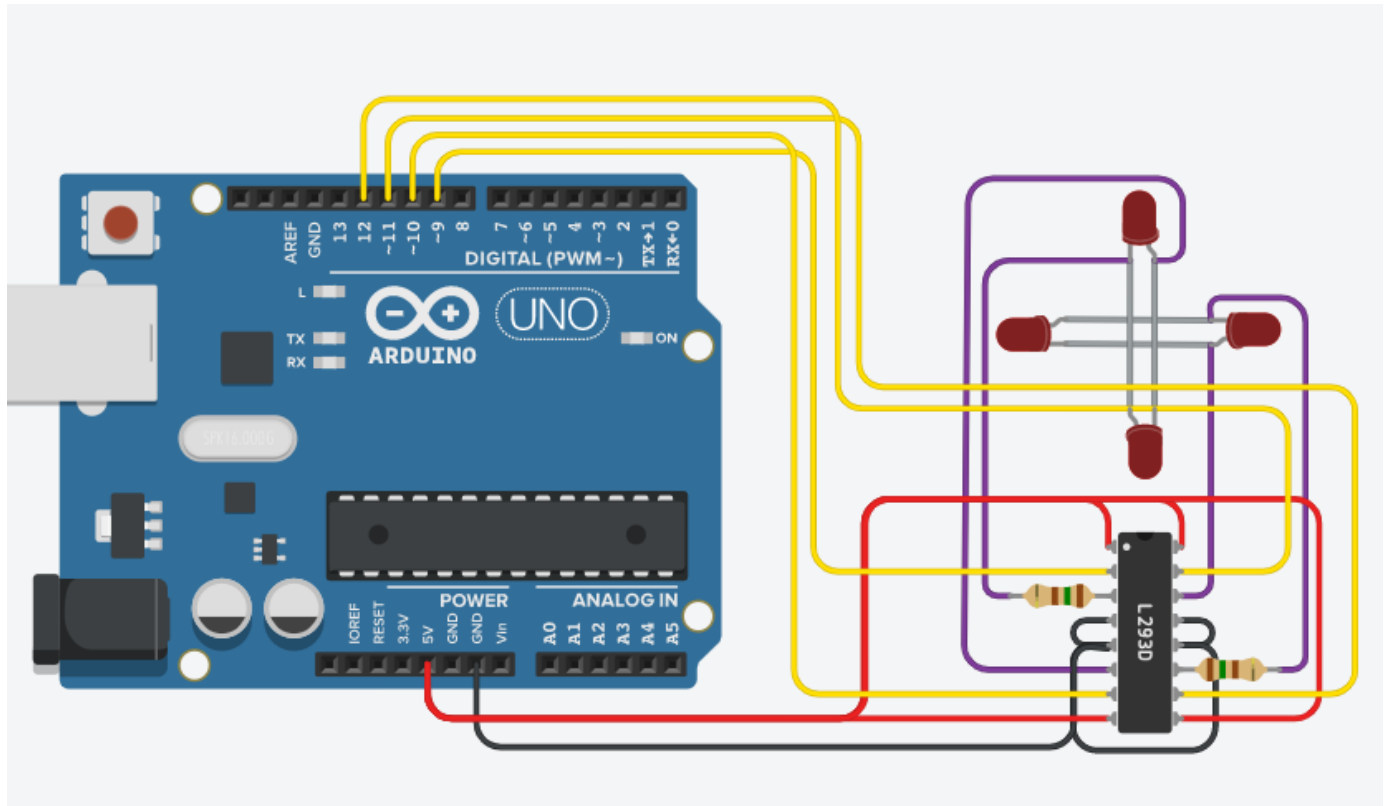

Figure3: stepper motor using Arduino
Two-Phase excitation is when two adjacent coils are excited together, so that the coil rotates to positions between the coils. In **Two-Phase** excitation, both coils have current flowing at the same time, then the rotor positions can be 45°, 135°, 225°, 315° degrees as shown in Figure 3. This is known as two-phase exception.
Step1: Connect the circuit shown in Figure 3 below using Tinkercad such that each led represent one coil from stepper motor.